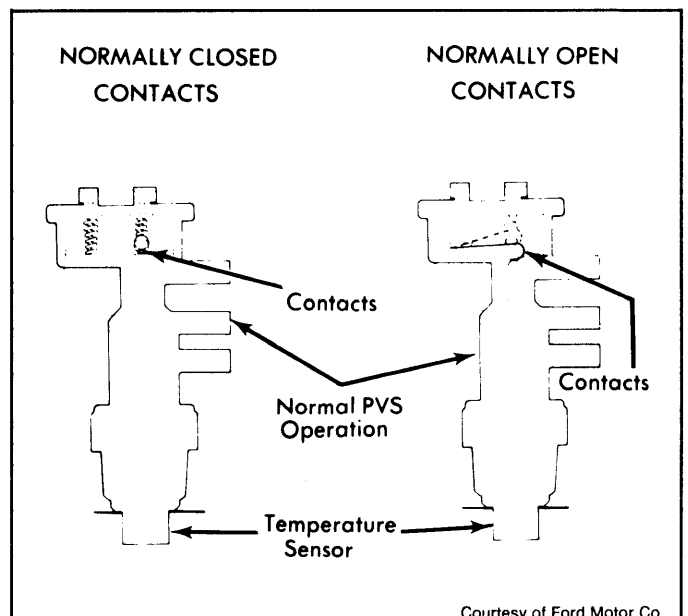

Fig. 4: Sectional View of Electric PVS
Electric PVS - Electric PVS is used on some engines with air injection and a catalytic converter. Two different electric PVS valves are used. One with normally closed contacts and one with normally open contacts. On both types of valves, the center and bottom ports operate in the same manner as a regular 3-port PVS. On normally closed contacts valve, the contacts are closed until coolant temperature reaches 235°F, at which time the contacts open. On normally open contacts valve, the contacts are open until coolant temperature reaches 235°F, at which time the contacts close. See Fig. 4.
3) The normally closed type will have continuity across connectors until engine coolant temperature reaches 235°F. Using an ohmmeter, verify continuity of electric PVS switch as described. See Fig. 4.